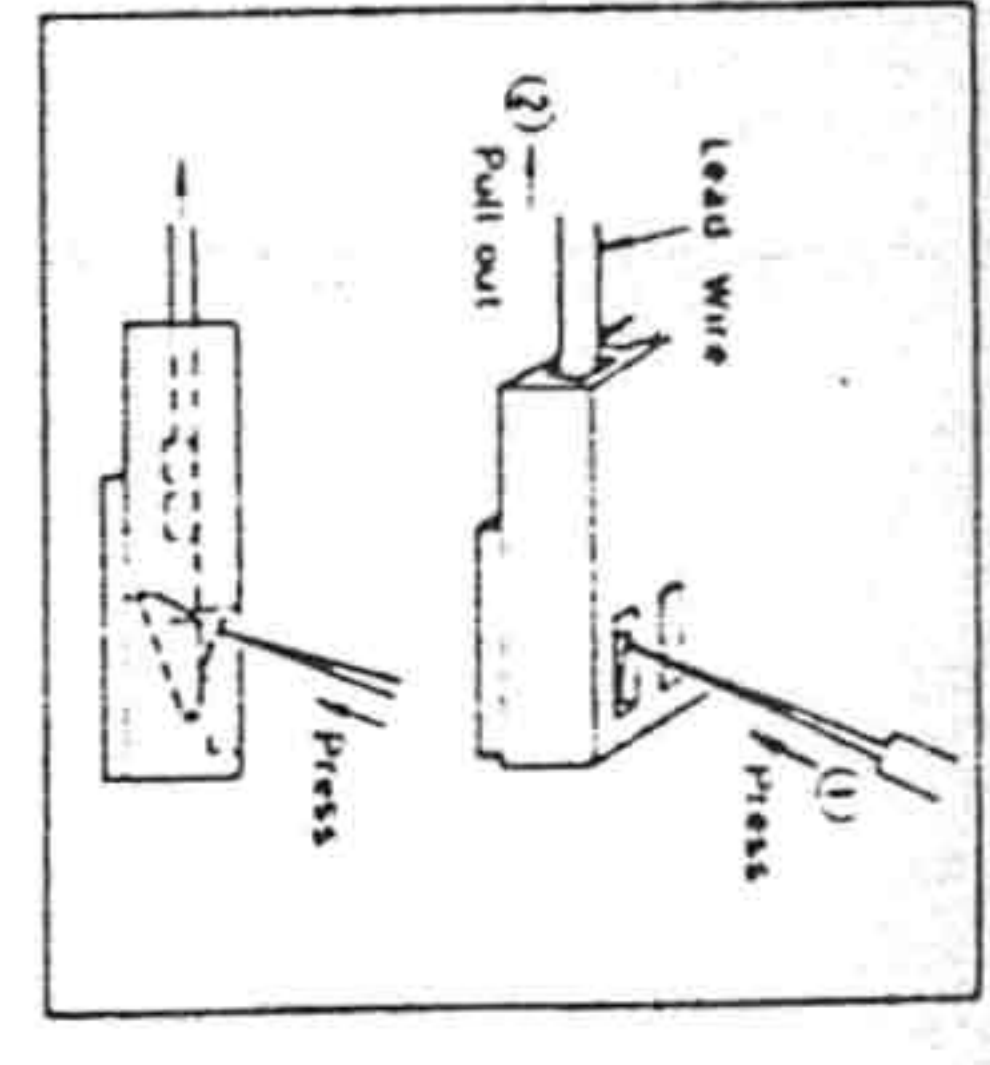

Fig. 5
4. To remove from the socket, hold the terminal with a sharp-point tool such as a needle, as shown in figure 5, and pull out the lead wire at the same time.